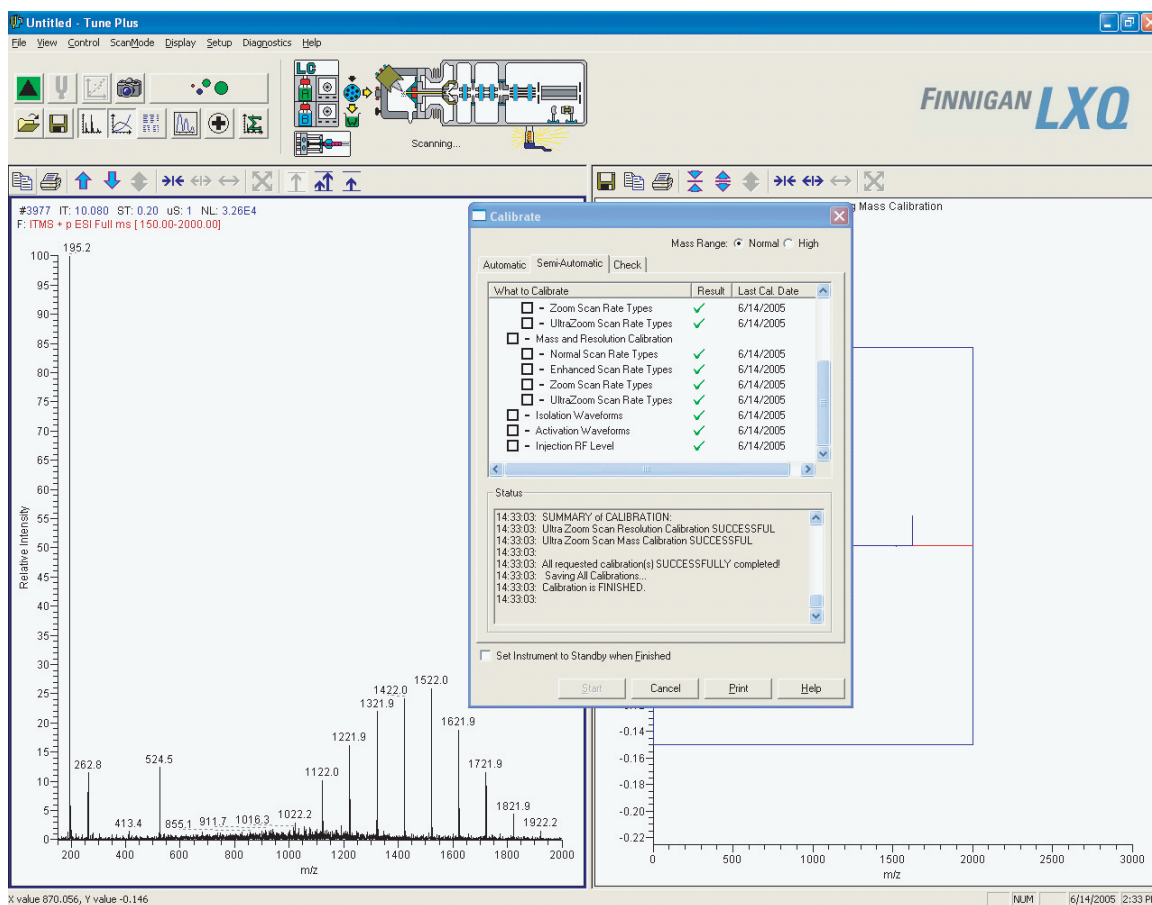

Figure 29. Tune Plus window with Calibrate dialog box, showing the results of a successful semi-automatic calibration procedure
- If a calibration item fails, you can try calibrating on that item again after you ensure the following: the spray is stable, the solution flow rate is sufficient, and all the ions in the calibration solution are present with adequate signal-to-noise ratios. If the sensitivity of the ions is low, increase the solution flow rate somewhat, and then use the *semi-automatic* calibration procedure to calibrate the specific parameter that failed. See Figure 29. Consider deselecting the ZoomScan Mode option if repeated failures occur.